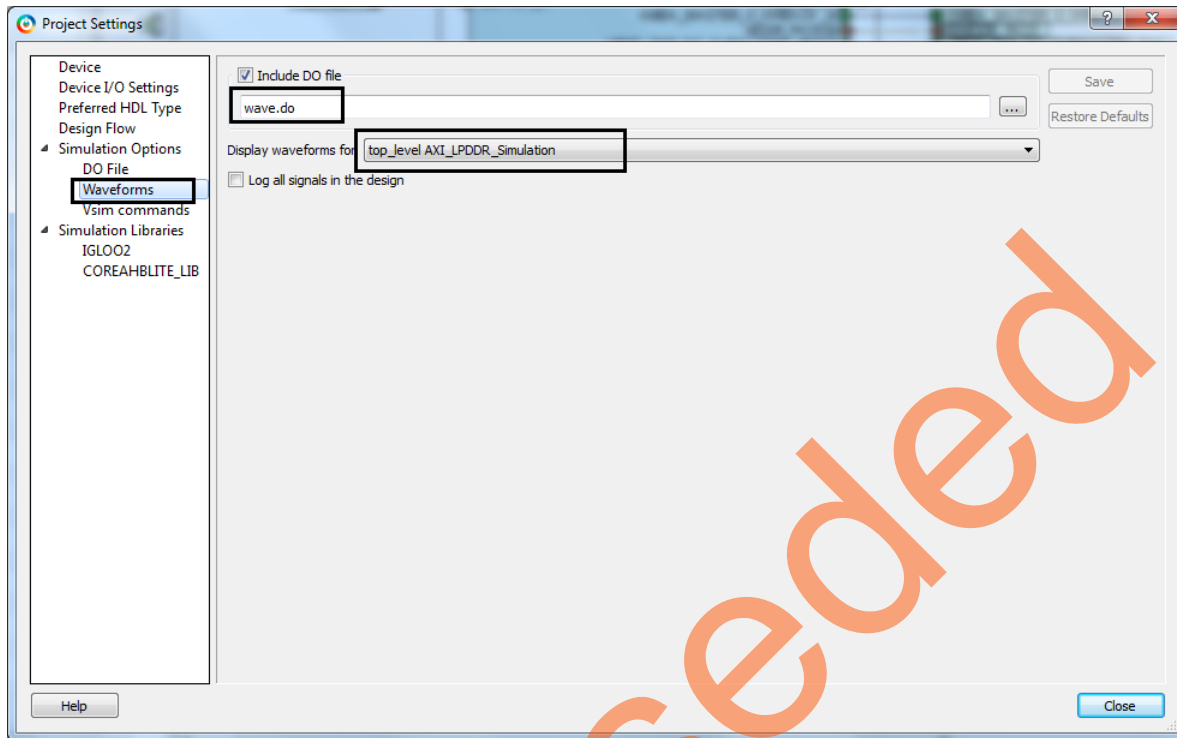

Figure 8 • Waveforms Settings
5. Ensure that the **Waveforms** tab has the configuration as shown in Figure 8.